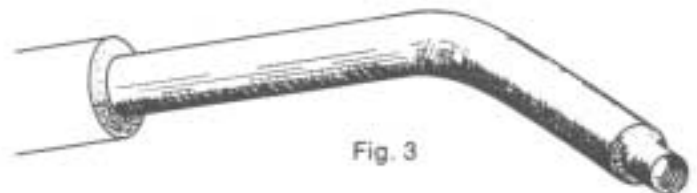

Fig. 3
**STEP FIVE:** Slide one end of the hose on to the port connection on the side of the canister. This will be a snug fit. Slide the metal nozzle into the other end of the hose with the crimped end OUT. See Fig. 3.
The metal nozzle allows ash to be removed quickly while larger particles are left behind to be burned at a later date. (Fig. 3)